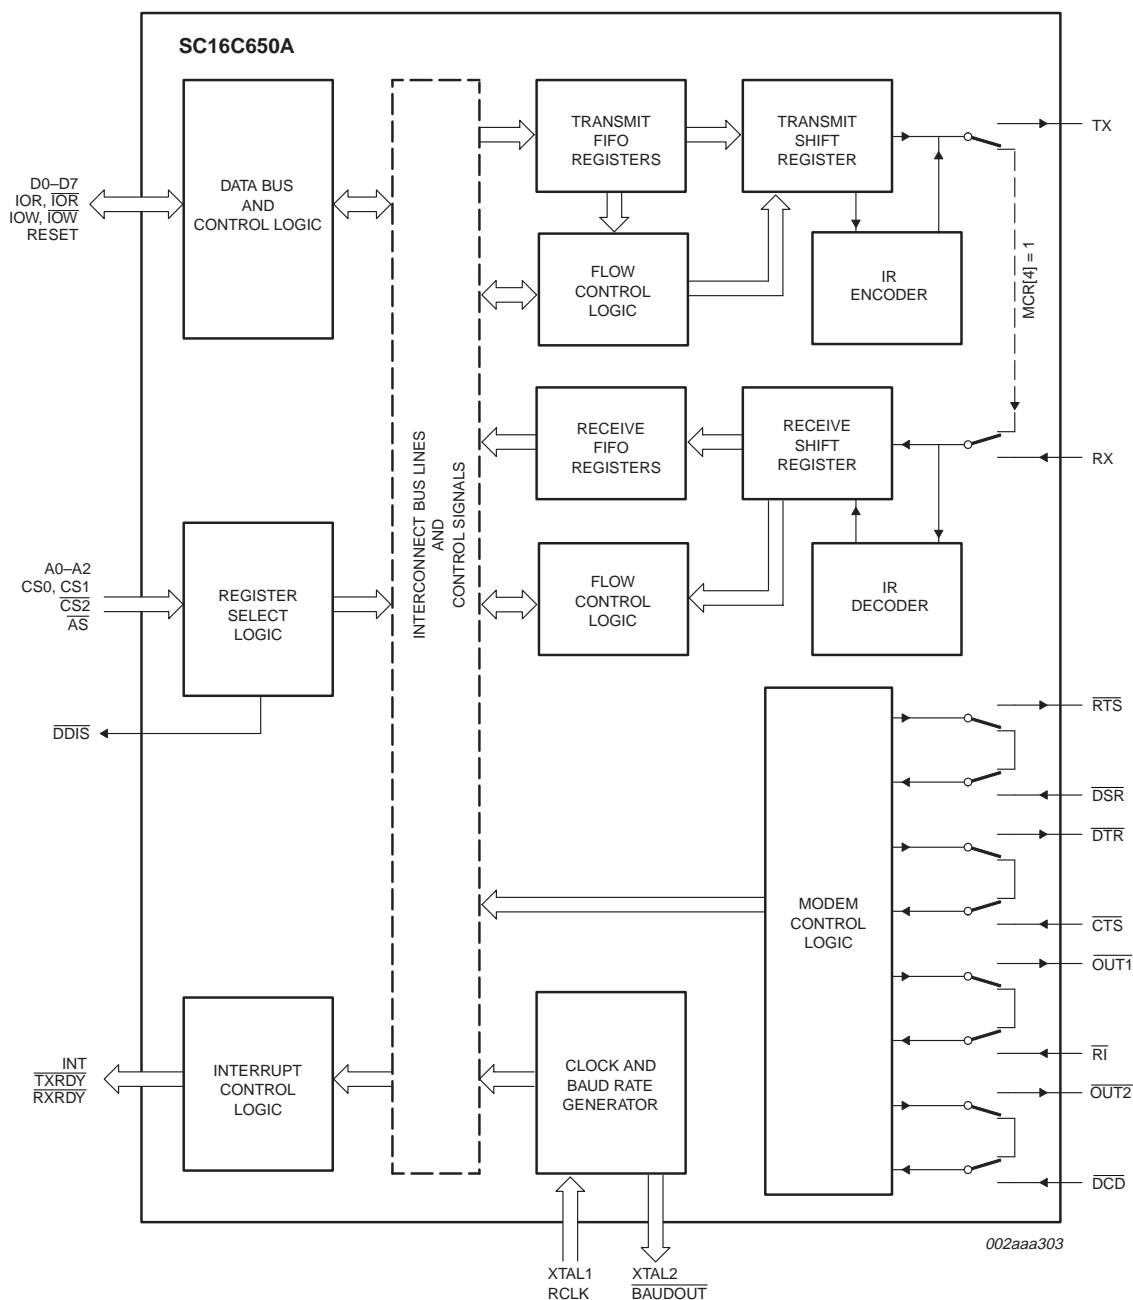

Fig 7. Internal loop-back mode diagram.
The internal loop-back capability allows on-board diagnostics. In the loop-back mode, the normal modem interface pins are disconnected and reconfigured for loop-back internally. MCR[0-3] register bits are used for controlling loop-back diagnostic testing. In the loop-back mode, OUT1 and OUT2 in the MCR register (bits 2-3) control the modem $\overline{\text{RI}}$ and $\overline{\text{DCD}}$ inputs, respectively. MCR signals $\overline{\text{DTR}}$ and $\overline{\text{RTS}}$ (bits 0-1) are used to control the modem $\overline{\text{CTS}}$ and $\overline{\text{DSR}}$ inputs, respectively. The transmitter output (TX) and the receiver input (RX) are disconnected from their associated interface pins, and instead are connected together internally (see Figure 7). The $\overline{\text{CTS}}$, $\overline{\text{DSR}}$, $\overline{\text{DCD}}$, and $\overline{\text{RI}}$ are disconnected from their normal modem control input pins, and instead are connected internally to $\overline{\text{DTR}}$, $\overline{\text{RTS}}$, $\overline{\text{OUT1}}$ and $\overline{\text{OUT2}}$. Loop-back test data is entered into the transmit holding register via the user data bus interface, D0-D7. The transmit UART serializes the data and passes the serial data to the receive UART via the internal loop-back connection. The receive UART converts the serial data back into parallel data that is then made available at the user data interface D0-D7. The user optionally compares the received data to the initial transmitted data for verifying error-free operation of the UART TX/RX circuits.